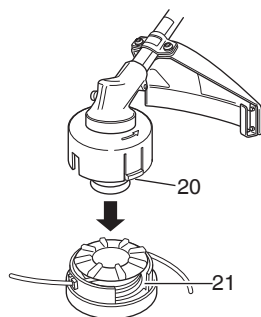

Fig. 25
- (6) Place the cover over the case so that the cap locking tabs (20) on the cover meet the long holes (21) on the case. Then push the case securely until it clicks into place. (Fig. 25)